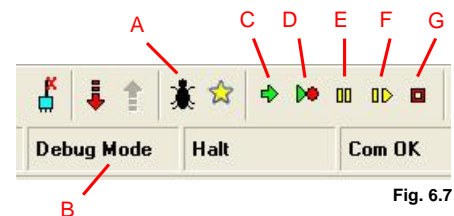

Fig. 6.7
During the development of the Program, if the Controller is connected, click on the "Debug" button (Fig.6.7-A) to activate the "Debug" modality.
In the Status bar the message "Debug Mode" (Fig.6.7-B) will be visualized and in the Tool bar will be activated the commands to execute the following debug operations:
**Run** (Fig.6.7-C) :Executes the Program continuously.
**Run To Break** (Fig.6.7-D): Executes the Program up to the Break point .
**Pause** (Fig.6.7-E) :Interrupts the execution of the Program ( "Run" condition) / executes the Program step by step ("Stop" condition)
**Animate** (Fig.6.7-F) Simulates the evolution of the Program flow executing it step by step.
**Stop** (Fig.6.7-G) :Blocks the Program and reset it to the first Function Block.